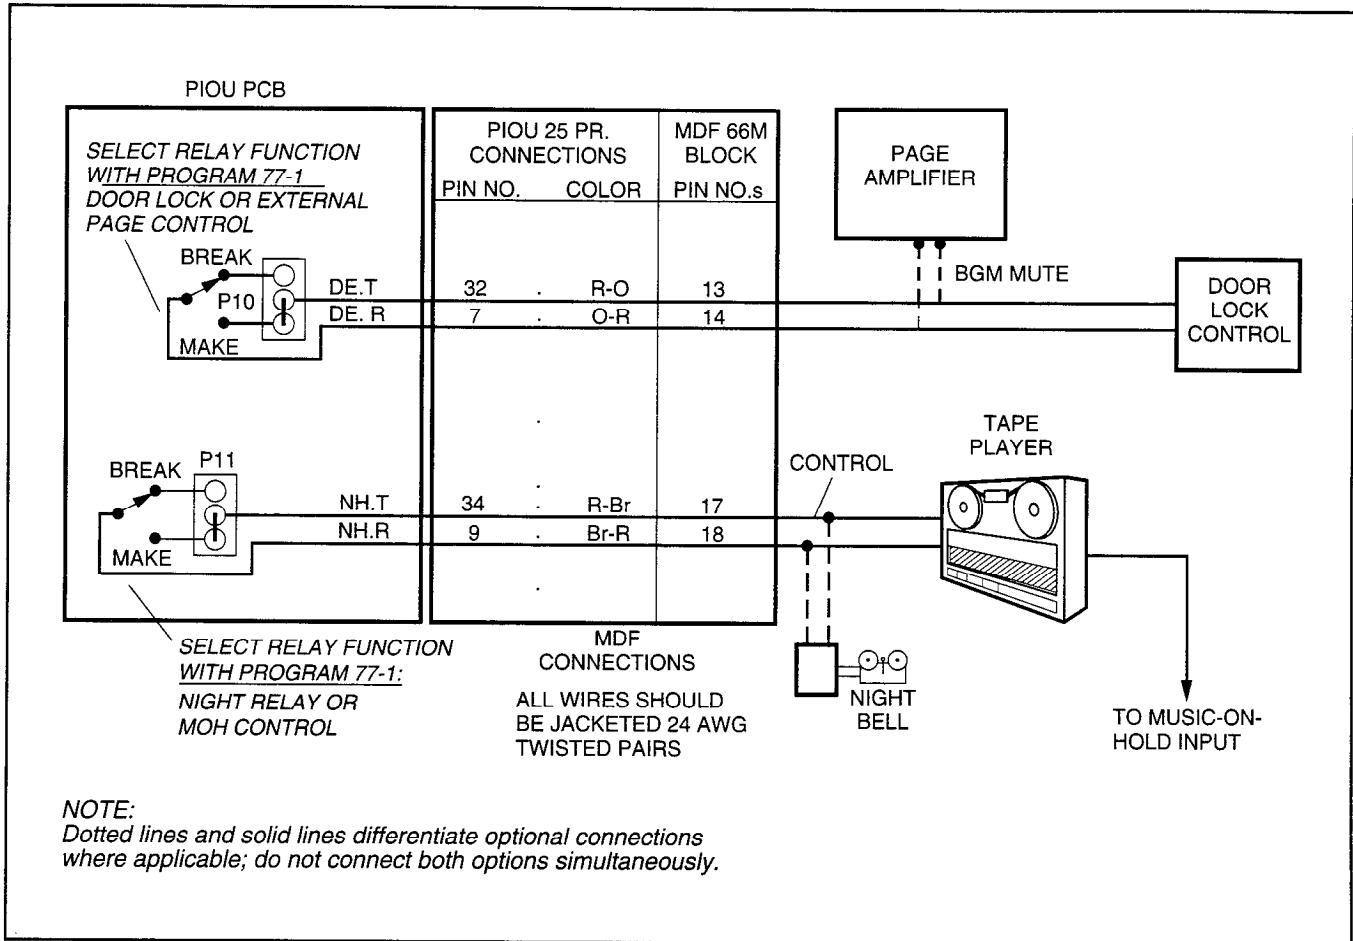

FIGURE 7-6
3.21 The Expansion Unit via the PIOU or PIOUS provides two additional relays that control peripheral options (see Figures 7-6, 7-7, 8-23, and 8-25).
function in accordance with the following steps (refer to Figure 7-6 and 7-7):
3.31 The NHT/NHR relay may be programmed for either the night relay or the MOH relay function (refer to Figures 7-6 and 7-7). These functions can be provided in addition to the relay service provided by the Base Unit.
3.34 DK16 Night Transfer Relay Control. Configure the PIOU or PIOUS for the Night Transfer Relay function in accordance with the following steps (refer to Figures 7-6 and 7-7):
- 8) Refer to Figures 7-6 and 7-7 for wiring/interconnecting details. Connect the PIOUS or PIOUS to the MDF as required for the night relay function.
Configure the PIOU or PIOUS for the MOH relay function in accordance with the following steps (refer to Figures 7-6 and 7-7):
- 3) Refer to Figures 7-6 and 7-7 for wiring/interconnecting details. Connect the PIOU or PIOUS to the MDF as required for the MOH relay function.